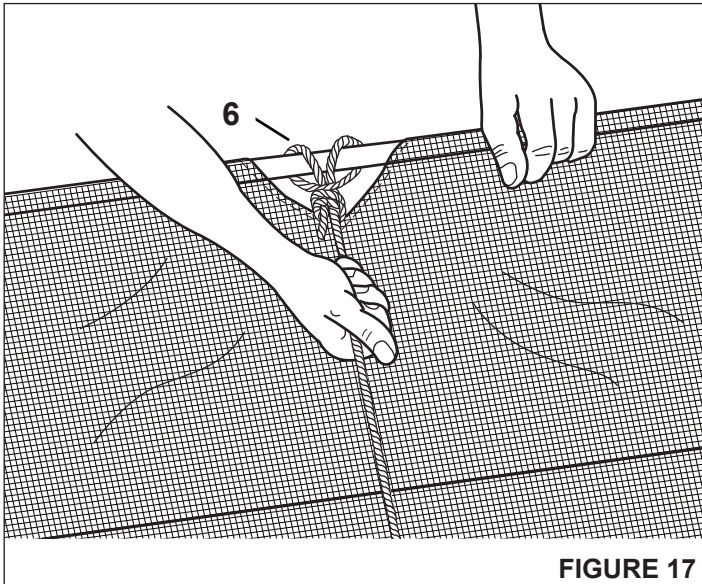

FIGURE 17
- Attach the bag frame strap (12) to the lower hopper tubes (12) using two hex bolts (E) and nylock nuts (M).
STEP 17: (SEE FIGURE 17)
- Tie the rope (6) to the center of the upper rear hopper tube.